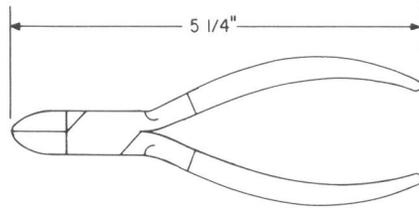

Fig. 17—UTICA 44CT-5 Cushion-Jaw Cutting Pliers
2.17 UTICA 44CT-5 Cushion-Jaw Cutting Pliers: The UTICA 44CT-5 cushion-jaw cutting pliers (Fig. 17) are diagonal pliers equipped with plastic grips above the cutting edges for holding small wire clippings. The plastic covering does not provide protection against hazardous voltages.